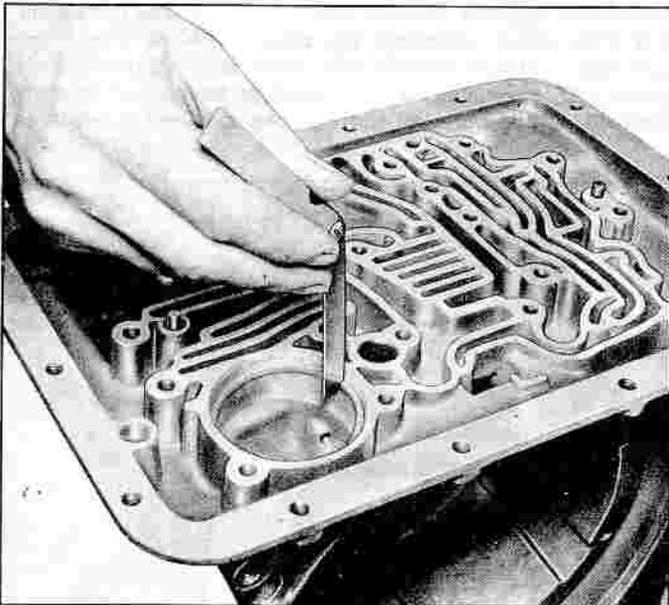

Fig. 7E-12—Measuring Low Servo Piston Ring Gap
To disassemble the low servo piston, remove the hair-pin retainer securing the piston to the piston rod and separate all components. The cushion spring tension on this piston is relatively slight; no press is required. Remove piston ring from the piston and install it in the low servo bore as illustrated in Figure 7E-12, then measure the ring gap. If within limits ring gap will be .002"-.012".
Assemble ring to piston, then measure clearance between ring and one wall of the piston groove (fig. 7E-13). Clearance should be .0005"-.005".
1. Install low servo piston and return spring (fig. 7E-14) in bore in transmission and engage notch in piston shaft with low band apply strut, loosening low band screw slightly to permit piston ring to seat in case bore.